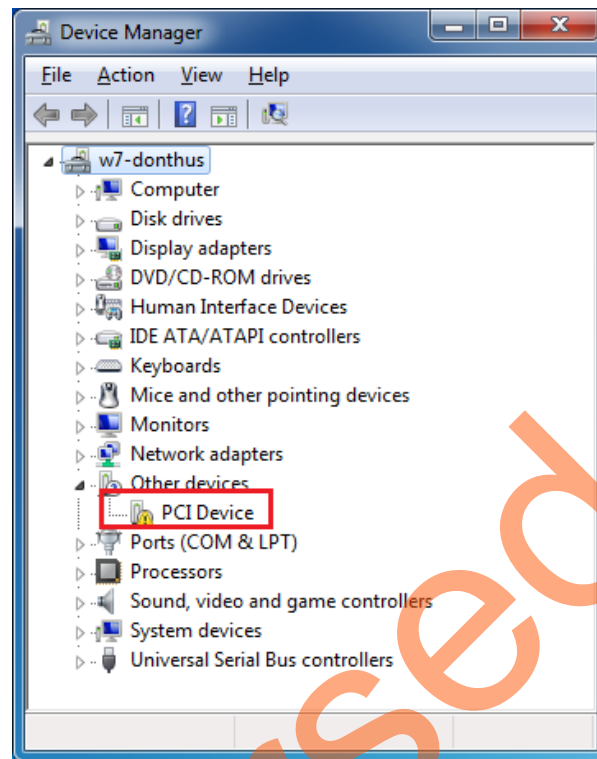

Figure 8 • Device Manager - PCIe Device Detection
4. Power on the Host PC and check the **Device Manager** of the Host PC for **PCIe Device**. Figure 8 shows the **Device Manager** window.